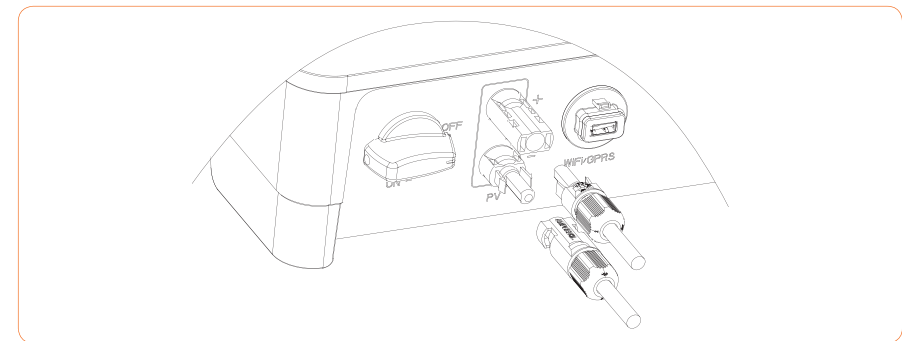

Figure 4-13
- ① Before assembling the DC connector, make sure that the cable polarity is correct.
- ② Use a multimeter to measure the voltage of the DC input string, verify the polarity of the DC input cable, and ensure that each string voltage is within 600V.
3. Insert the positive and negative connectors into the inverter DC input terminals respectively, a click sound should be heard if the terminals are well connected, as shown in Figure 4-13: